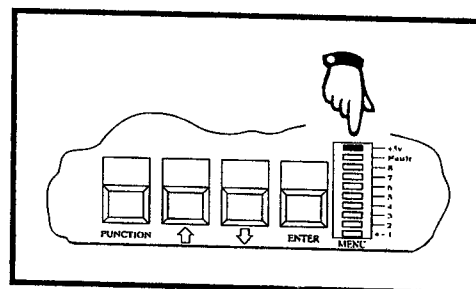

Figure 2-8
- Turn **ON** the Mains ON/OFF switch. Check to see that the **+5v** indicator LED illuminates **ON** the **Menu Display** located on the CPU card as shown in Figure 2-8.